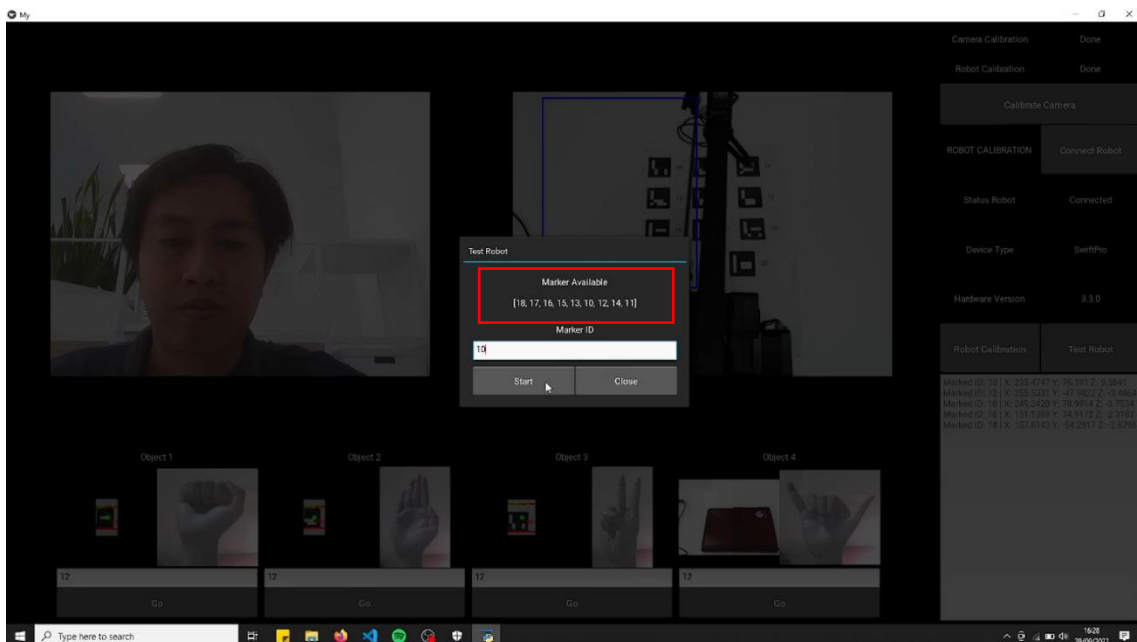

Figure 21. Test the Robot
3. After you click the button, it will appear Robot Calibration interface like Figure 21